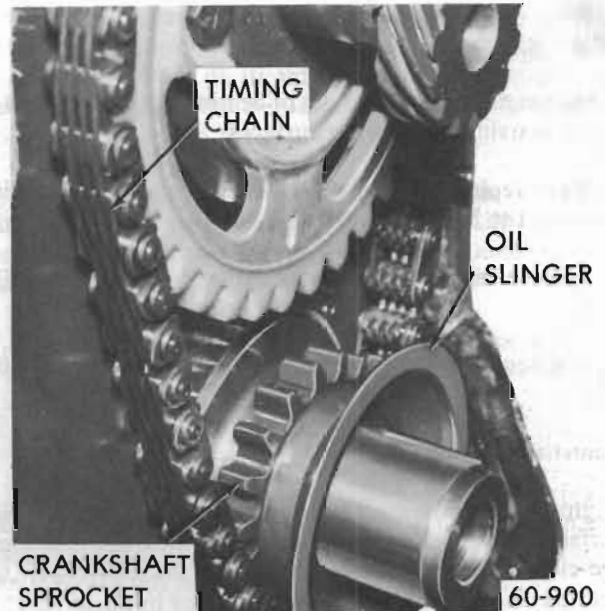

Figure 60-114 - Oil Slinger Installation
4. Assemble slinger on crankshaft with I.D. against sprocket (concave side toward front of engine). See Figure 60-114.